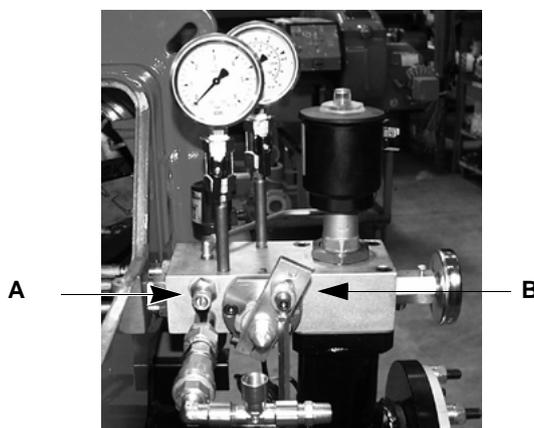

Fig. 23
- Remove and clean the compressed air regulator **A** in Fig. 23.
- Remove and clean the oil regulator **B** in Fig. 23.